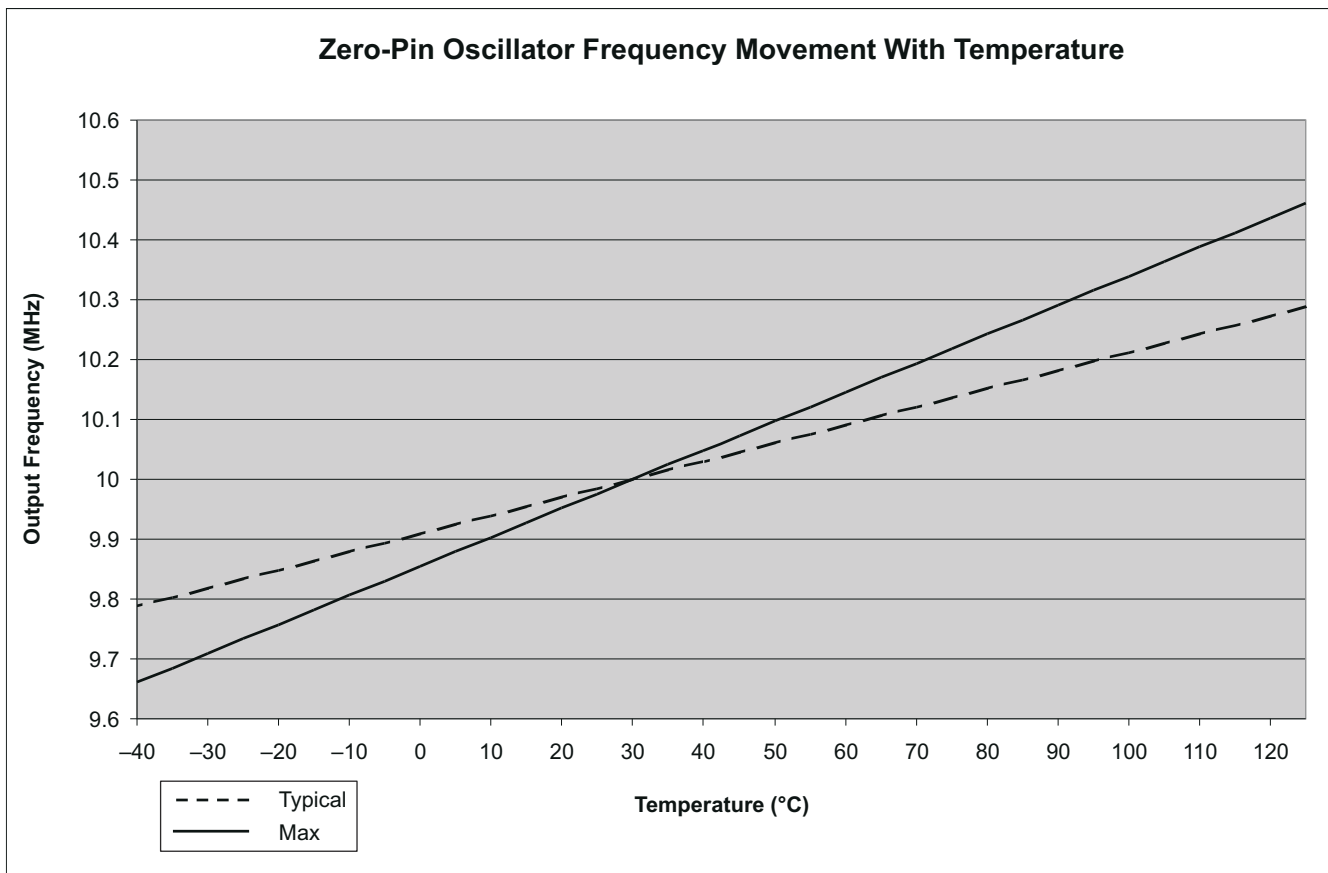

Figure 8-8. Zero-Pin Oscillator Frequency Movement With Temperature
- (1) Oscillator frequency will vary over temperature, see Figure 8-8. To compensate for oscillator temperature drift, see the Oscillator Compensation Guide and C2000Ware.
- (2) Frequency range ensured only when VREG is enabled, $\overline{\text{VREGENZ}} = V_{SS}$.
- (3) Output frequency of the internal oscillators follows the direction of both the temperature gradient and voltage (V_{DD}) gradient. For example: